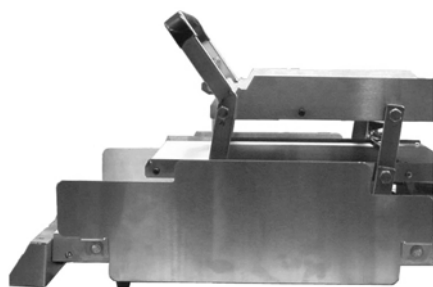

Figure 20
- 3** Replace side covers when finished. (See **Figure 20**.)